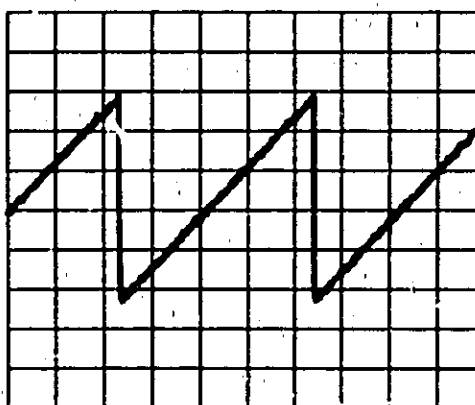

Figure 4-12. Ramp Waveform Loaded From External Data input.
19. The oscilloscope should display a ramp as shown in Figure 4-12.